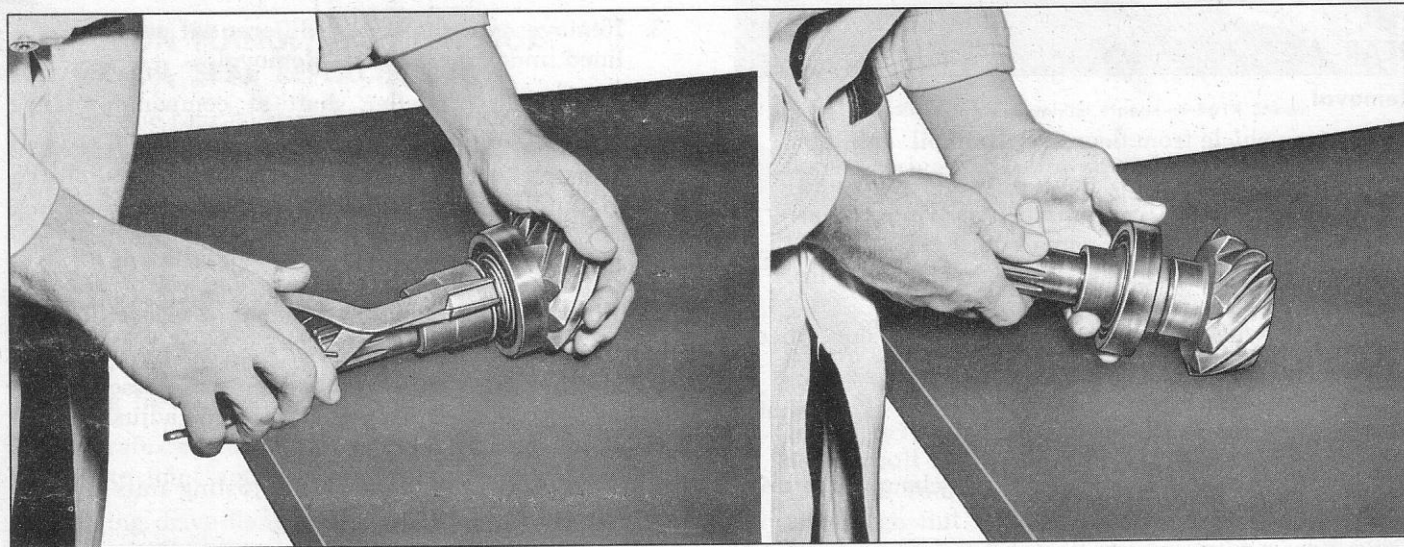

Fig. 22—Removing Rear Pinion Bearing
11. Remove rear bearing lock ring and rear bearing from pinion shaft (fig. 22).